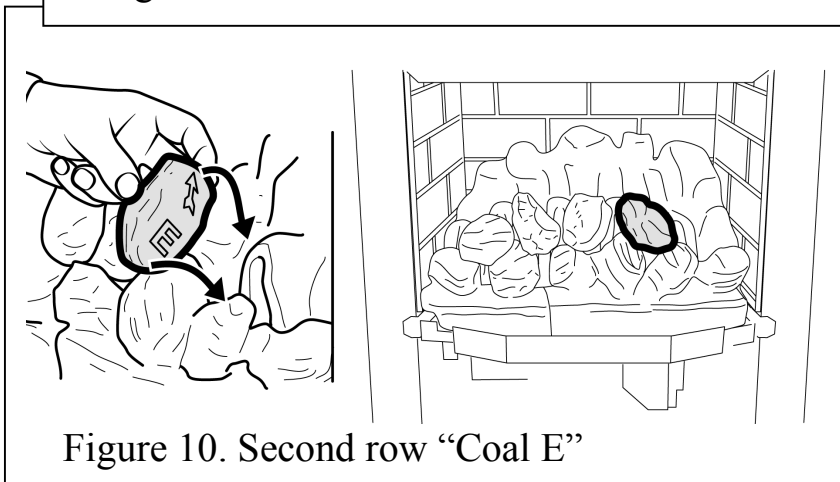

Figure 10. Second row "Coal E"
13. Hold coal 'E' upright with the arrow pointing to the top. Locate coal 'E' as shown in figure 10.